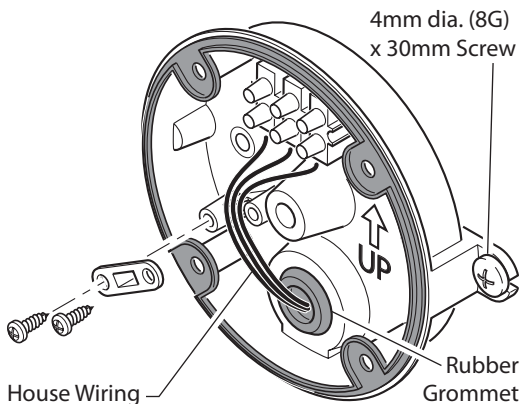

Figure 3
4. Make a small hole in the rubber grommet and route the house wire through the hole (see Figure 3).